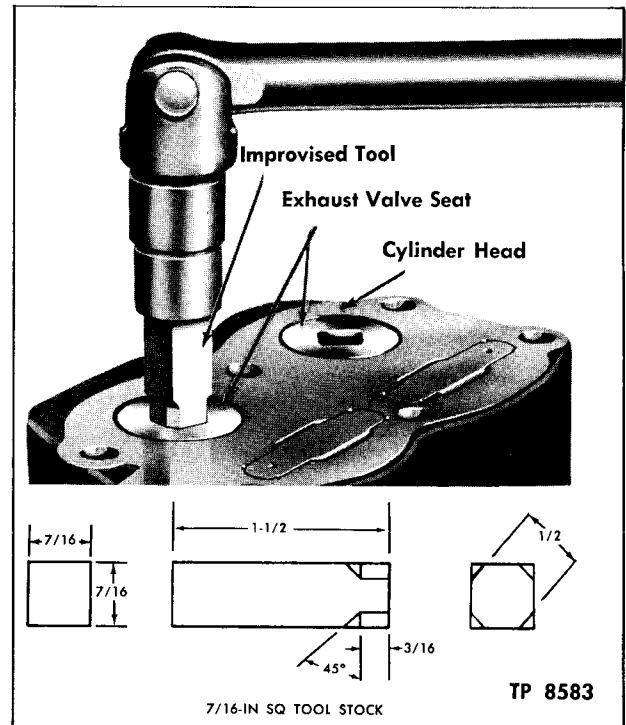

Figure 5—Removing or Installing Discharge Valve Seats
3. Remove discharge valve seats from bottom of cylinder head, using a short length of 7/16-inch square tool stock with corners ground off as a wrench adapter. Refer to figure 5 for adapter dimensions and application.